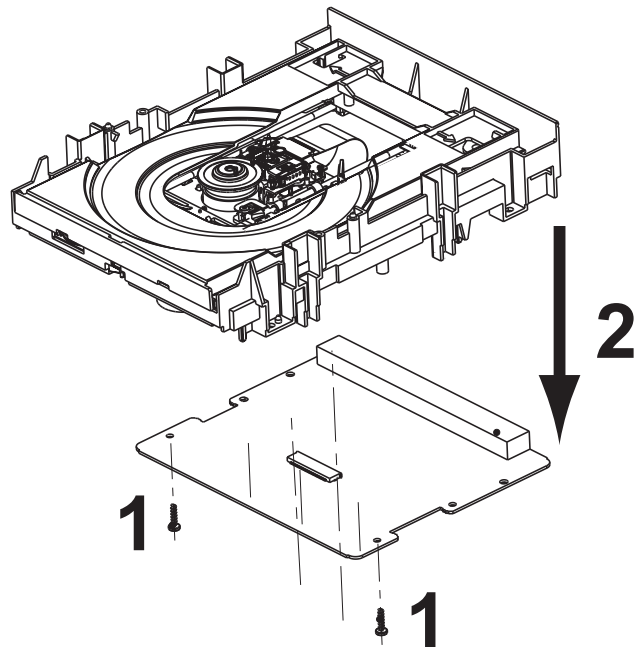

Figure 4-4 Remove PWB
- Remove the 2 screws that hold the PWB, see figure 4-4